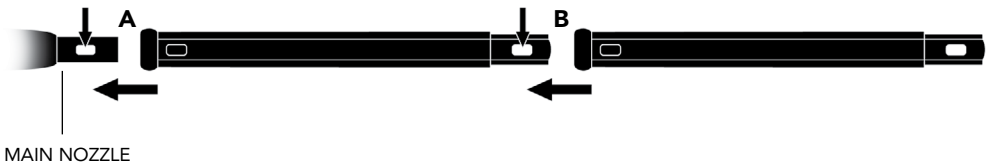

FIGURE 1
2. Press down on gray lock/release button. While continuing to hold button down, slide Extension Wand onto Main Nozzle (FIGURE 1-A). Push wand over button, and continue pushing until button snaps through hole on wand.
3. Slide second Extension Wand onto end of the one you just connected, this time lining up rectangular hole of second wand with gray lock/release button of first wand. Press and hold button, and firmly push second wand onto end of first wand until button snaps through hole (FIGURE 1-B). Both Extension Wands should now be connected to the Main Nozzle.